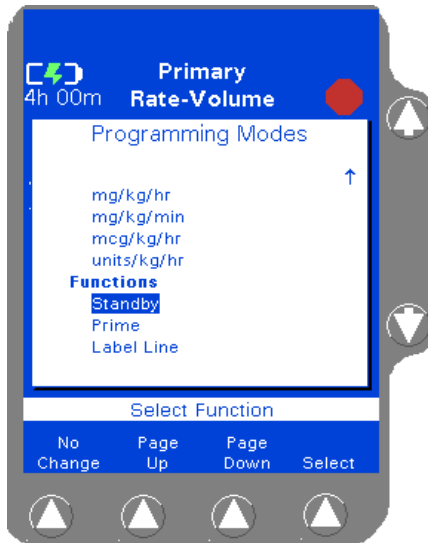

Figure 4-79 Programming Modes Menu
3. From the Programming screen, press the **Change Mode** soft key. The Programming Modes menu is displayed (Figure 4-79).